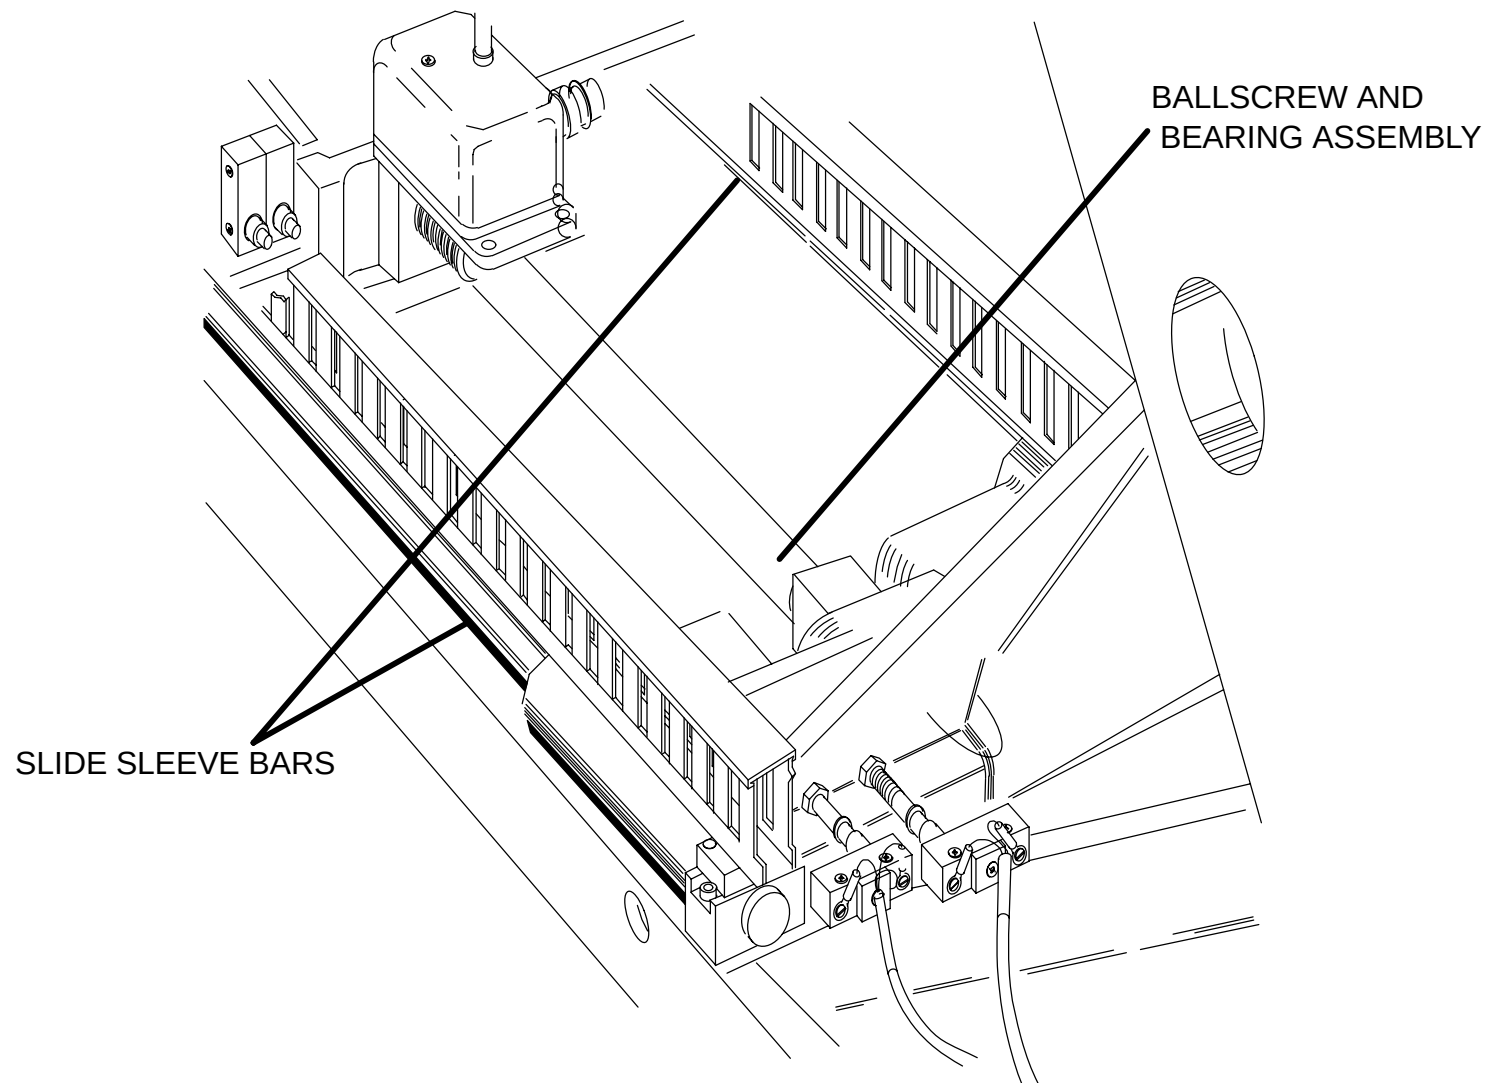

FIGURE 115 DRIVE SYSTEM LUBRICATION
2. Use a paper towel to remove any old, dirty lubricant from the ballscrew and bearing assembly shown in Figure 115. Use a paper towel to apply a conservative amount of Mobilgrease 28 to the ballscrew and wipe away the excess.
4. Either brush or wear rubber gloves and apply by hand a thin layer of Dow Corning G-n paste to all surfaces of the slide sleeve bars. Refer to Figure 115.